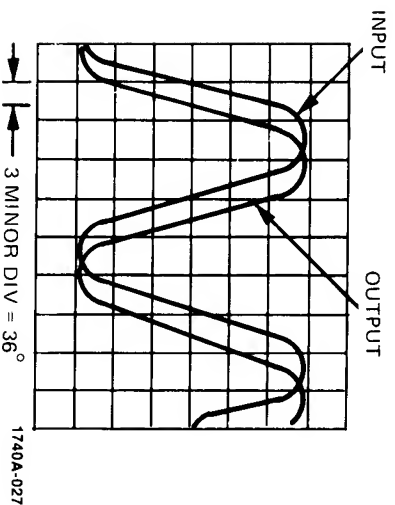

Figure 21. Phase Difference Measurement
**Example:** Assume one cycle of the input signal occurs in six divisions and there are three minor divisions between the input and output waveforms (see figure 21).